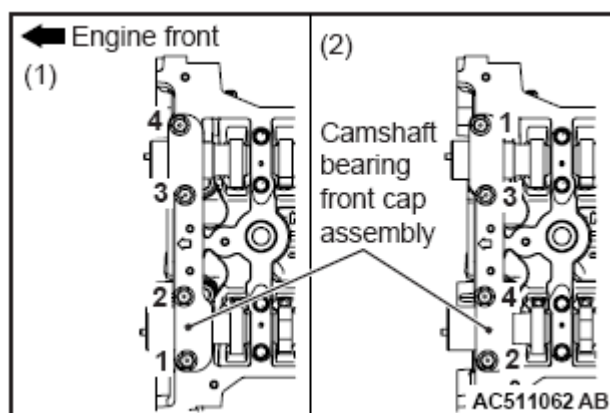

Fig. 68: Tightening Camshaft Bearing Front Cap Mounting Bolts
1. Install the camshaft bearing front cap to the cylinder head, and temporarily tighten the camshaft bearing front cap mounting bolts to the specified torque in the order shown in the illustration **Fig. 68**.
2. Tighten again the camshaft bearing front cap mounting bolts to the specified torque again in the order shown in the illustration **Fig. 68**.